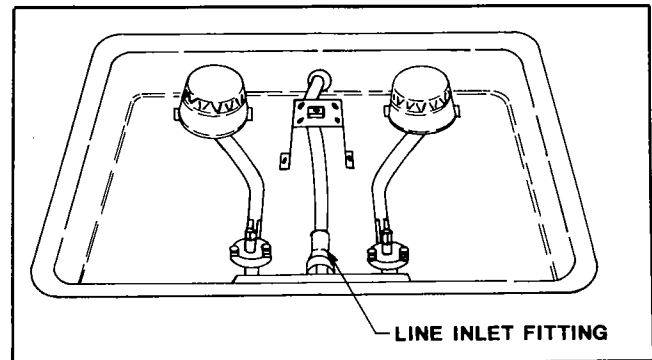

Figure 6. Stove
13. Remove center screw holding stove top, remove top and separate LP line from stove at line inlet fitting (figure 6). Remove stove.